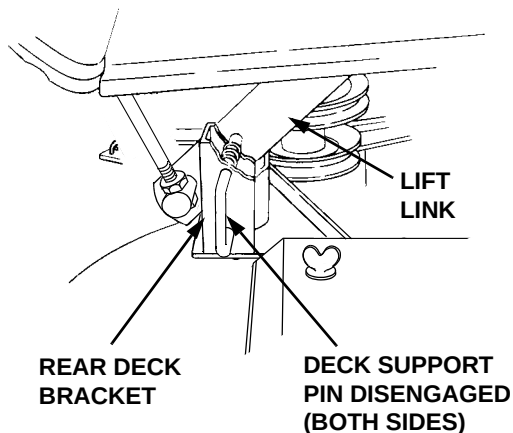

Figure 47
7. Pull the deck support pins outward, turn downward and release so both spring-loaded pins are held in the disengaged position against the outer surface of the deck brackets (Refer to Figure 47).